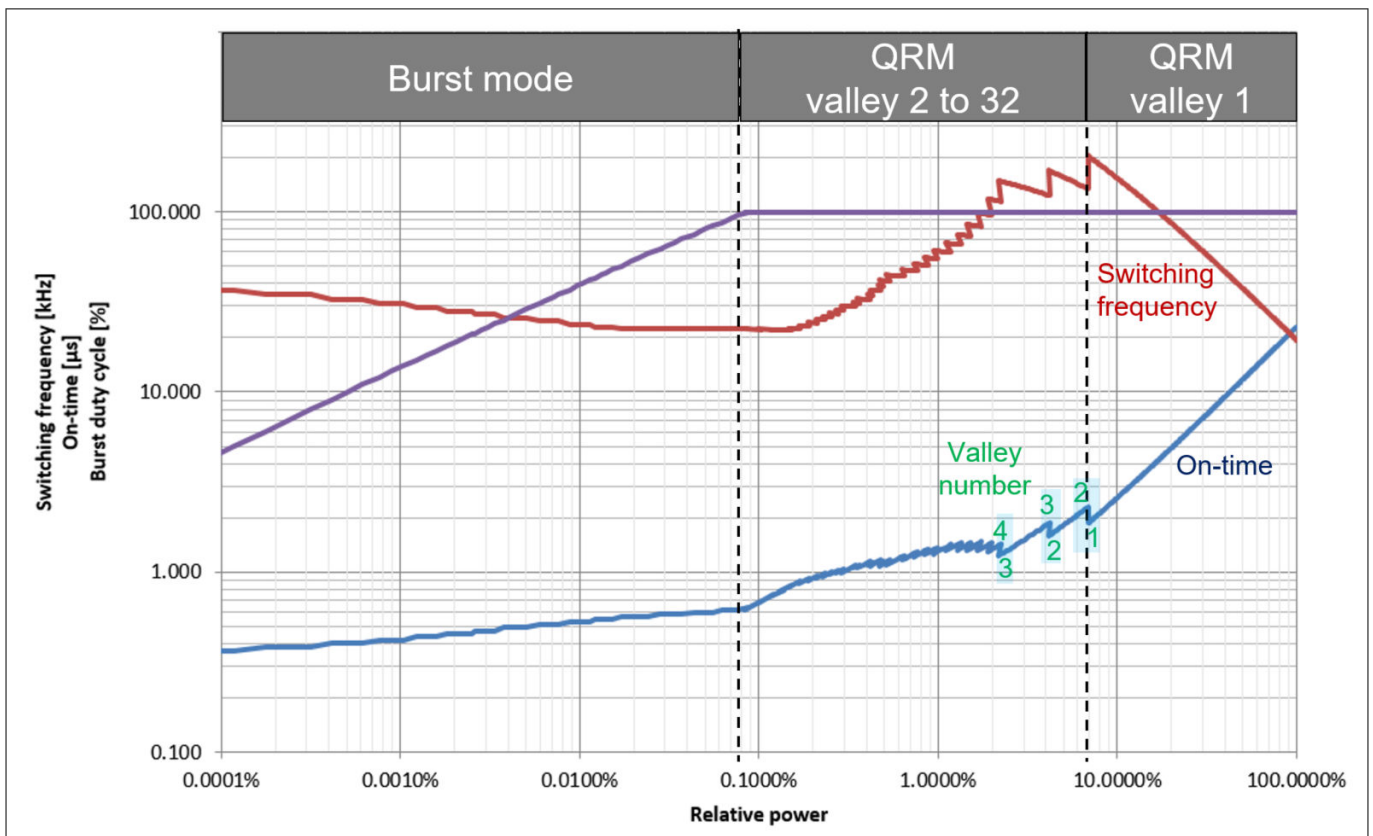

Figure 8 Exemplary switching characteristics versus relative power, with on-time compensation for valley changing
Figure 8 areas highlighted in blue show the on-time compensation effect (in zig-zag pattern) when, for example, the QRM valley number is increased from 1 to 2, from 2 to 3, and from 3 to 4. When the relative power is further decreased, the on-time compensation continues at higher valley changing position (in smaller zig-zag), until it reaches the maximum valley number of 32. To ensure the QRM switching frequency reduction stays above the audible range, the QRM off-time is limited to a maximum value of  $t_{off}$  (47  $\mu s$  typ.).
- the system-dependent on-time compensation effect for valley number change (see Figure 8)